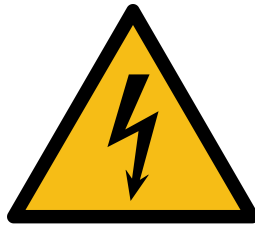

Figure 1: ISO 7010 warning sign for high voltage
- The battery boxes where high voltage is present are marked with ISO 7010 W012. See Figure 1 for more information.